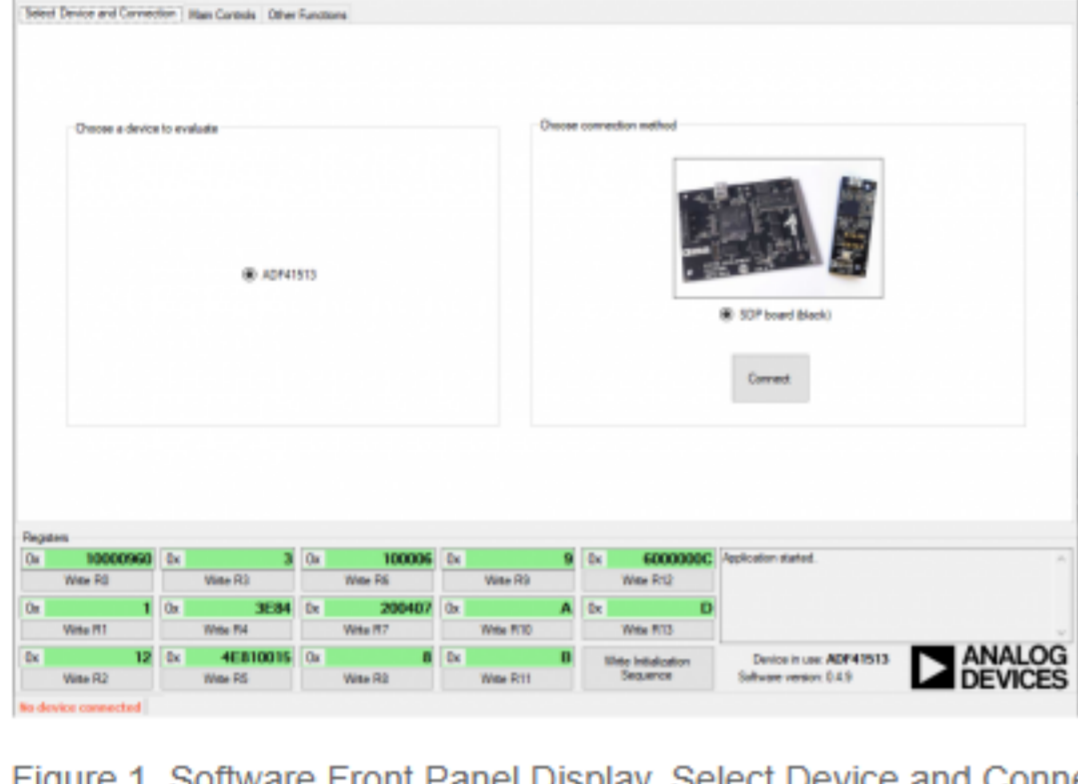

Figure 1. Software Front Panel Display, Select Device and Connection Tab
2. In the Select Device and Connection tab, click Connect (see Figure 1).
9. Select ADF41513 and SDP board (black) in the Select Device and Connection tab (see Figure 1).